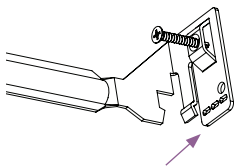

fig. 1 (optional)
- If ceiling thickness is 0.75 in (19.05 mm) or greater: Use pliers to break off the tabs at the end of both nailer bars (see fig. 1).